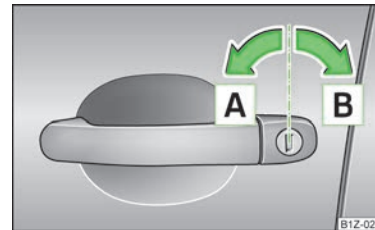

Fig. 11
- Turn the key in the locking cylinder of the driver's door in the direction of travel (unlock position) **A** » Fig. 11.
- › Turn the key in the locking cylinder of the driver's door in the opposite direction of travel (lock position) **[B]** » Fig. 11 on page 28.